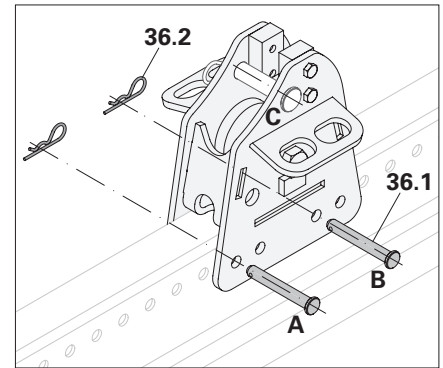

Fig. A10.01
1. Release cotter pins (36.2) and bolts (36.1) on the bearer (36) – 2x per bearer. (Fig. A10.01)